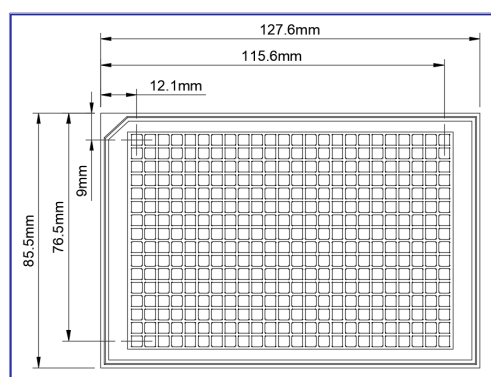

Figure 3. Corning Spheroid Microplate Measurements (Catalog Number 4516). Overhead view showing relevant width and length dimensions.
- A2. Ensure the automated system has the correct plate dimensions for the Corning® Spheroid Microplate (Catalog Number 4516, Figure 3 below).